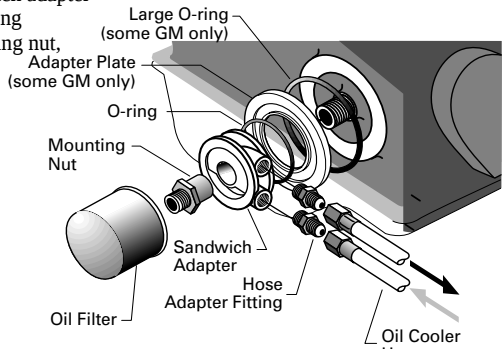

FIGURE 3 Sandwich Adapter Installation
- 3) Wrap 3/8" hose adapter fittings (not incl.) with Teflon tape, or coat with automotive thread sealer, and screw them into the sandwich adapter. FIG. 3.
- 5) Apply a light coat of oil to rubber o-ring and fit to groove in sandwich adapter. Fasten sandwich adapter to the engine block using the appropriate mounting nut, with o-ring facing engine block. FIG. 3. Point fittings toward hose route; tighten mounting nut. Do not overtighten.